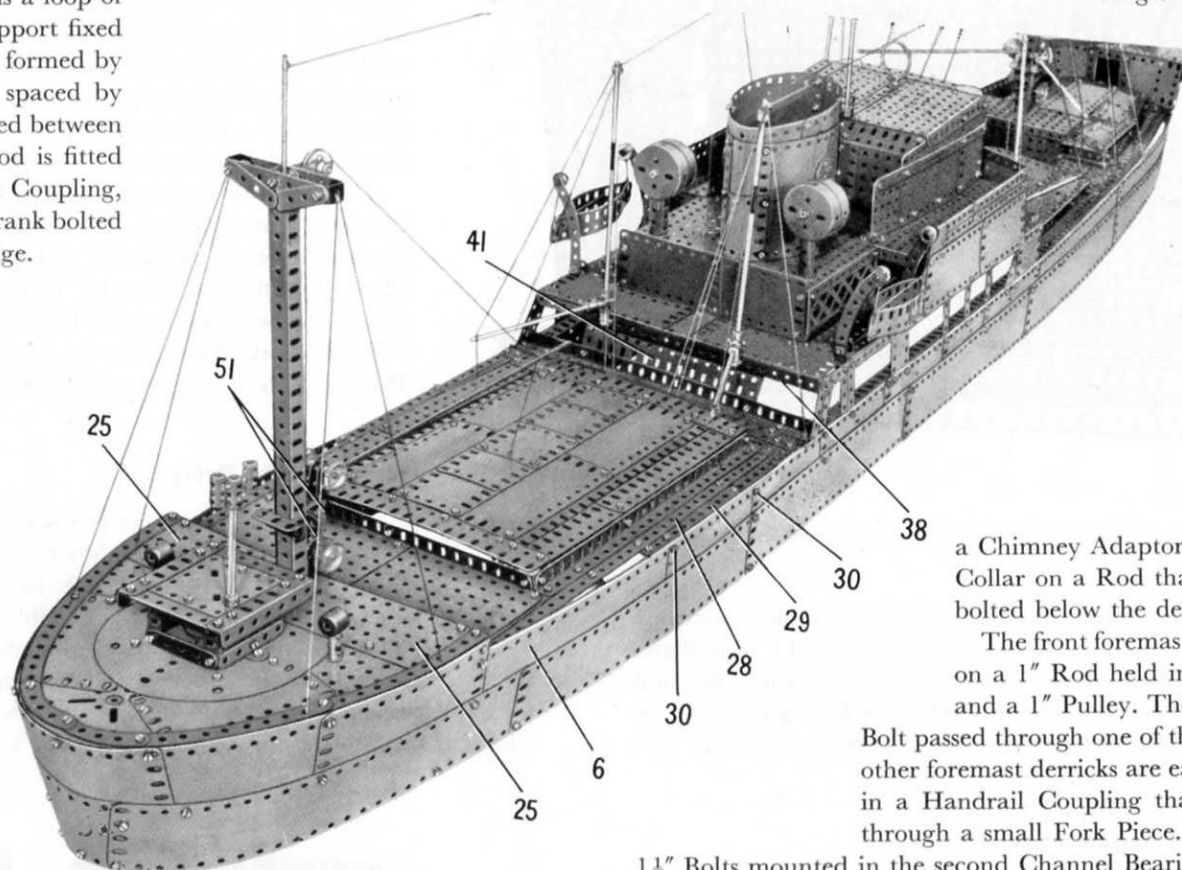

FIG. 7 A stern view of the Cargo Ship showing the aft mast and details of the superstructure
The Strip Plates at the stern are curved, and are connected by a  $3\frac{1}{2} \times 2\frac{1}{2}$  Flexible Plate, whose lower edge is strengthened on the inside by a Formed Slotted Strip. The stern Plates are extended upward by a  $12\frac{1}{2} \times 2\frac{1}{2}$  Strip Plate (6) (Fig. 7) and two  $5\frac{1}{2} \times 2\frac{1}{2}$  Flexible Plates on each side, and a further  $5\frac{1}{2} \times 2\frac{1}{2}$  Flexible Plate is bolted in position above the  $3\frac{1}{2} \times 2\frac{1}{2}$  Flexible Plate.
The deck at the stern consists of two  $5\frac{1}{2}$ "  $\times$   $2\frac{1}{2}$ " Flat Plates (25) (Fig. 7), a 6" Circular Plate and a 4" Circular Plate bolted to a  $9\frac{1}{2}$ " Strip (26) (Fig. 4). A  $3\frac{1}{2}$ "  $\times$   $2\frac{1}{2}$ " Flanged Plate and a  $4\frac{1}{2}$ "  $\times$   $2\frac{1}{2}$ " Flexible Plate are fixed at each side, and the deck is edged by Curved Strips as shown. The rear end of Strip (26) is connected to the stern by an Angle Bracket, and the front end is supported by a built-up girder made from a  $7\frac{1}{2}$ " and a  $4\frac{1}{2}$ " Angle Girder bolted together. This girder is connected to the sides of the hull by  $1$ "  $\times$   $1$ " Angle Brackets, and two  $18\frac{1}{2}$ " Angle Girders (27) (Fig. 4) are attached to it by Double Brackets. The front ends of the Girders (27) are joined to the Girder (10) by  $1\frac{1}{2}$ " Strips. Two  $12\frac{1}{2}$ " Strips are fixed to the Girders (27) behind the Girder (10). A  $12\frac{1}{2}$ " Strip (28) on each side, extended by a  $5\frac{1}{2}$ " Strip, is supported by one of the first-mentioned  $12\frac{1}{2}$ " Strips and is connected to the
Girder (27) by Fishplates. A strip (29) on each side, made from a  $5\frac{1}{2}$ " and a  $4\frac{1}{2}$ " Strip, is bolted to a  $5\frac{1}{2}$ " Angle Girder that is fixed to the side of the hull by bolts (30) (Fig. 7).
The aft mast (Fig. 7), is generally similar to the foremast, but varies in slight details that can be seen in the illustration. Two Trunnions (51) and a  $1\frac{1}{2}"$  Angle Girder are bolted to the mast.